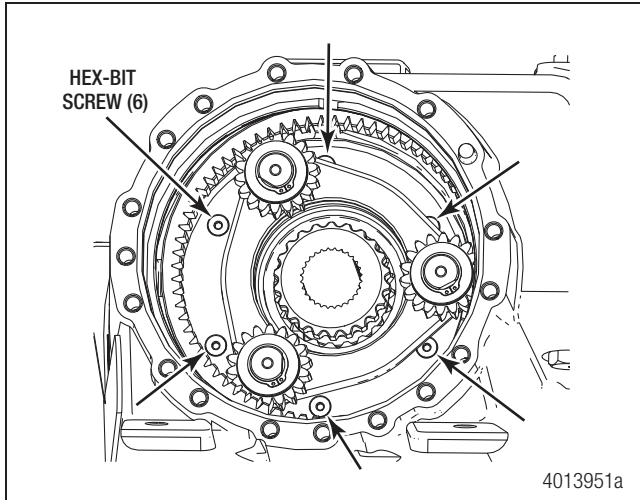

Figure 4.27
2. Remove the six hex-bit screws securing the planetary carrier plate to the transfer case. You will need to rotate the carrier assembly around to access all of the screws. NOTE: Do not use an impact wrench or you may strip the internal threads of the top of the screw. Figure 4.27.